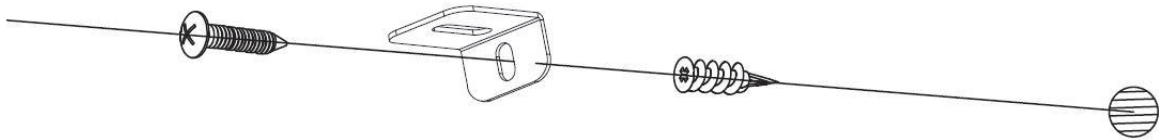

Fig 3-3
C.Install the plastic anchor (**C**) into the drywall, then install the screw **B** (supplied) into the hole of the **L-bracket** into the wall anchor to secure the fireplace from coming off the hooks. (**Fig 3-3**)